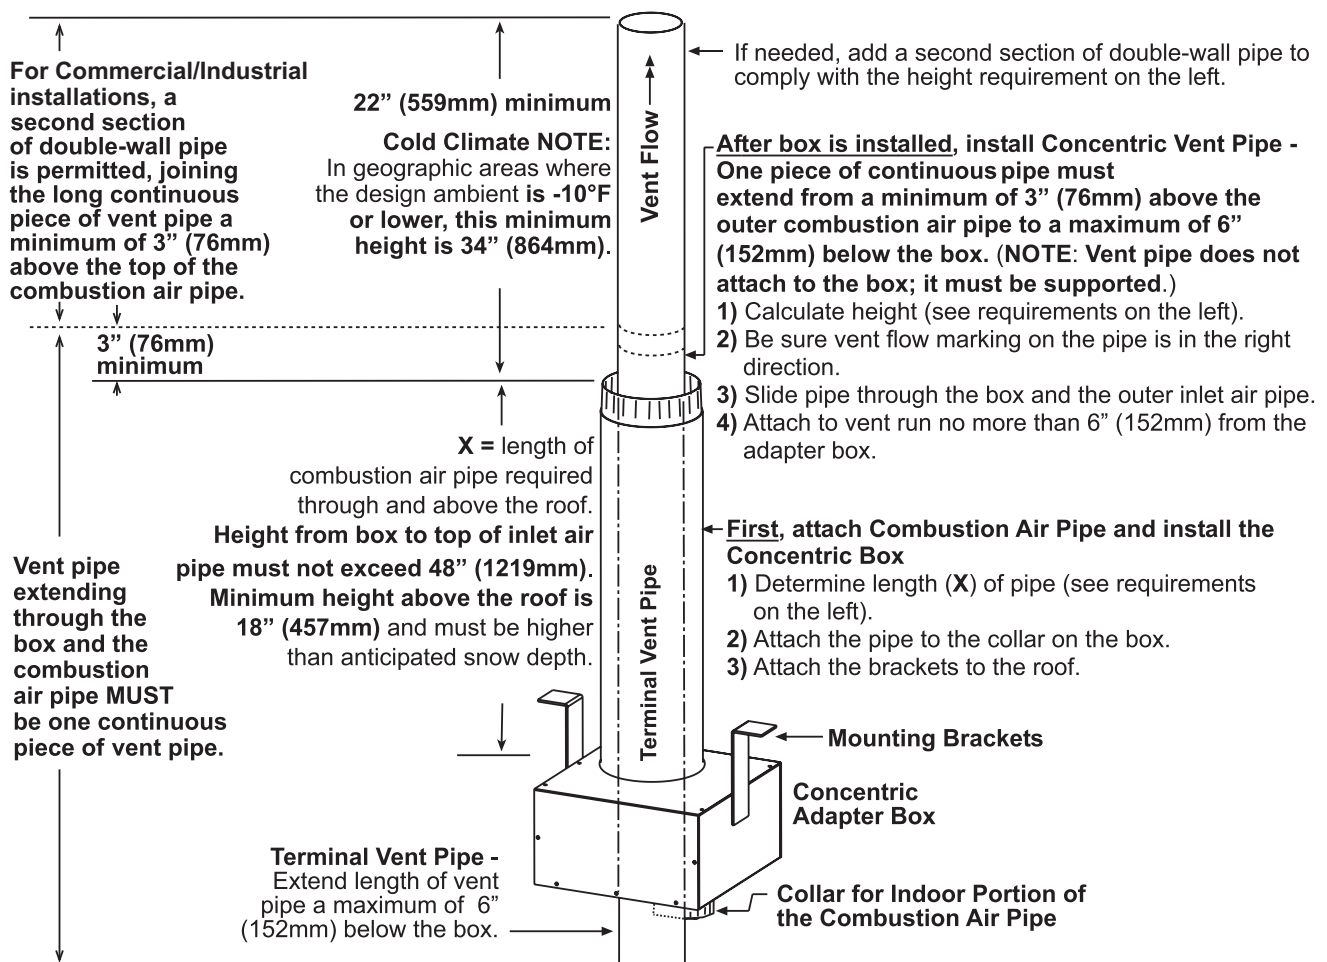

Figure 10. Combustion Air Pipe Installation
5. Connect outside section of combustion air pipe to concentric adapter box (see Figure 10):
- Determine length of combustion air pipe so that dimension X in Figure 10 is equal to bracket length, plus roof thickness, plus anticipated snow depth. Ensure that length of combustion air pipe does not **exceed** 48 inches (1,219 mm) or does not extend **less than** 18 inches (457 mm) above roof.
6. Secure concentric adapter box to underside of roof (see Figure 10):
- a. Refer to Figure 10 to determine required length of continuous section of vent pipe. Determine length as follows:
- (1) Start with no more than 6 inches (152 mm) below concentric adapter box
- (2) Plus 6 inches (152 mm) through box
- (3) Plus length of bracket extending above box
- (4) Plus width of roof
- (5) Plus height of combustion air pipe above roof
- (6) Plus minimum of 3 inches (76 mm) beyond top of combustion air pipe
- (7) Total is minimum length of vent pipe section—if actual piece of vent pipe is longer, extend it further above combustion air pipe—do not extend it more than 6 inches (152 mm) below box